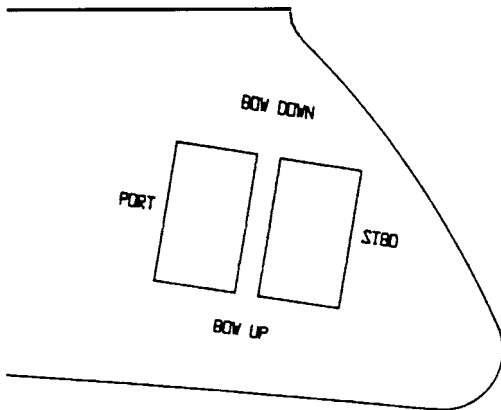

Figure B3: Trim Tab Switches
The trim tab control uses two (2) momentary-type rocker switches. The trim tab switches control the attitude or position of the boat. See Figure B3.